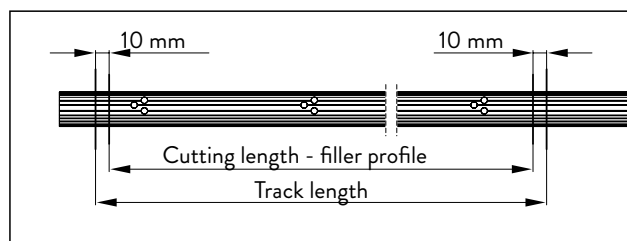

Fig. 25 Moving the markings
6. Move the markings on the left and right of the filler profile in by 10 mm (Fig. 25).
The filler profile needs to be 20 mm shorter than the counter profile and the track (Fig. 25).